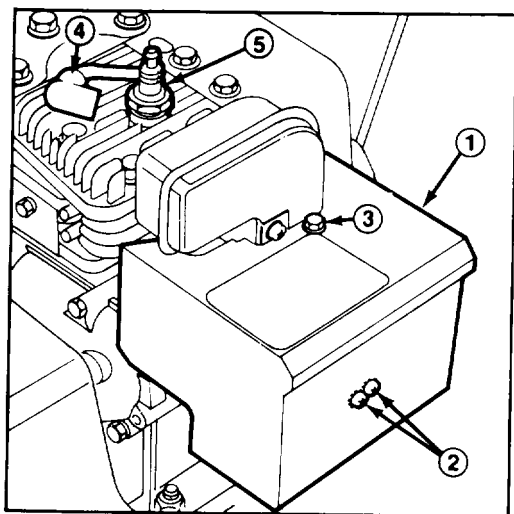

Figure 15
**Note:** If engine is operated when temperature is +40° F (4° C) or higher, remove carburetor heater box (Fig. 15). However, the heater box must be reinstalled when temperature falls below +40° F (4° C). To remove heater box:
- A. Remove phillips screws and hex head screw securing heater box in place. Pull choke knob off choke rod (Fig. 15).
1. Push high tension wire onto spark plug (Fig. 15).
To prevent accidental starting of the engine while performing maintenance, rotate ignition key to off and remove it from the switch. Next, pull high tension wire off spark plug (Fig. 15) and make sure wire does not accidentally touch the plug.
1. Pull high tension wire off spark plug and make sure wire does not contact plug accidentally (Fig. 15).